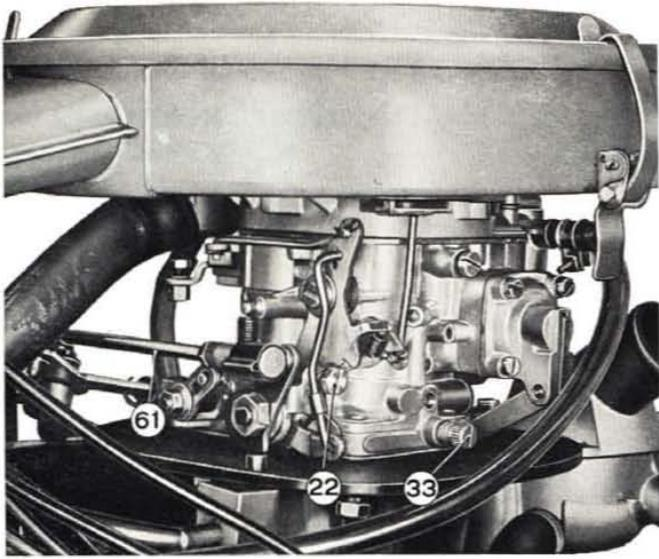

Fig. 437 - Carburetor in place on engine.
Idling adjustment should be carried out with the engine warm and running by first of all adjusting the throttle stop screw (22, fig. 437) to a point where the engine does not falter and then adjusting the volume control screw (33) to obtain the mixture which gives the highest regular engine speed at the selected degree of throttle restriction. Finally, further narrow the throttle opening to the best idle speed and control the rate of the mixture with the screw (33).